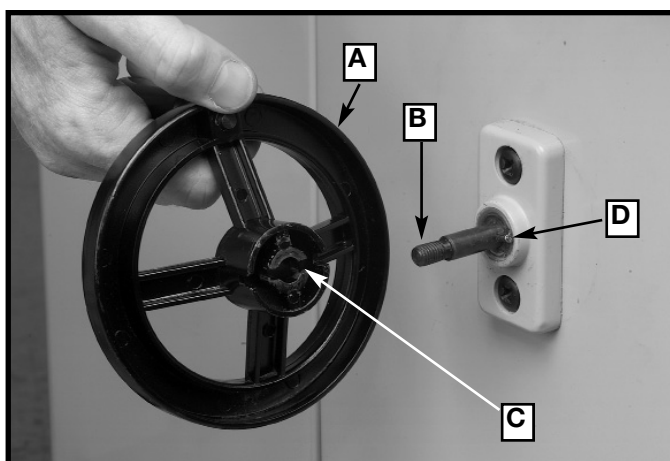

Fig. 6
Place blade tilting handwheel (A) Fig. 6 on shaft (B) on the left side of the saw cabinet. Make certain slot (C) in handwheel is engaged with roll pin (D) on the shaft.